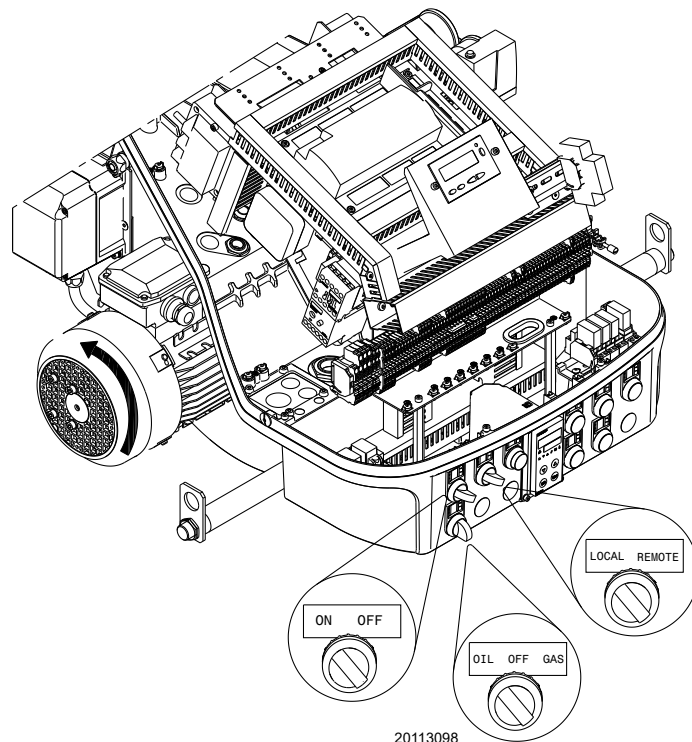

Fig. 43
Turn the switch to position “ON” (Fig. 43) and turn the switch of to position “LOCAL” and turn the switch to position “OIL” for oil operation and “GAS” for gas operation.
When the burner starts, check the direction of the motor rotation, as indicated in Fig. 43.
- place the switch of Fig. 43 in position “OFF” and wait for the control box to carry out the switch-off phase;